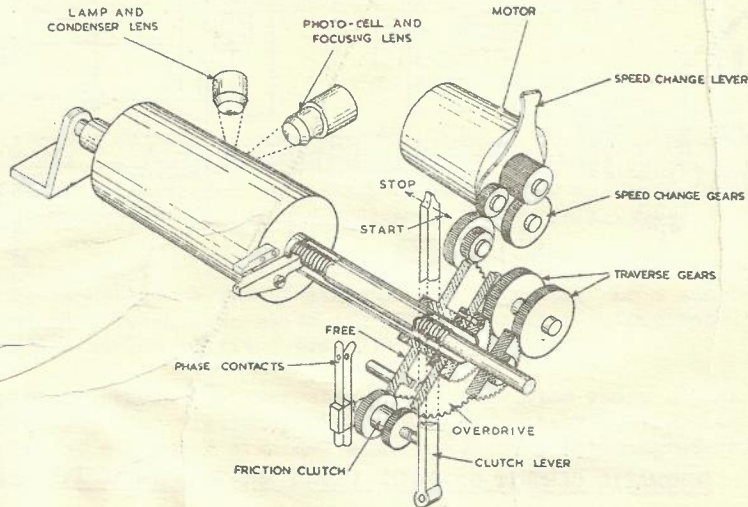

FIG. 4. MECHANISM ASSEMBLY OF PICTURE TRANSMITTER TYPE D-601-A.
2.6 The mechanism assembly is shown in Fig. 4. The driving unit comprises a hysteresis motor and gear box, the supply to the motor being at 1,020 c/s from a tuning fork and amplifier. The output spindle rotates at 720 r.p.m. The hysteresis motor is considerably smaller than a phonic motor of the same power and is self-starting.